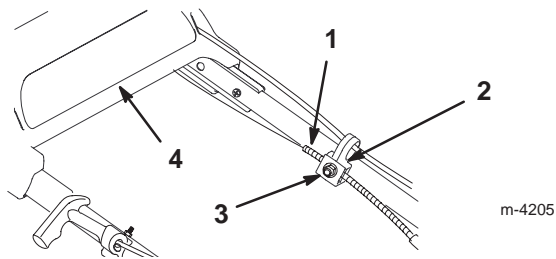

Figure 25
- Loosen the cable support nut (Fig. 25).
5. With the upper handle pushed back as far as possible and while holding the drive bracket down, pull the cable jacket down (toward the lawn mower) until there is no slack in the cable (Fig. 25).
6. Tighten the nut on the cable support (Fig. 25).